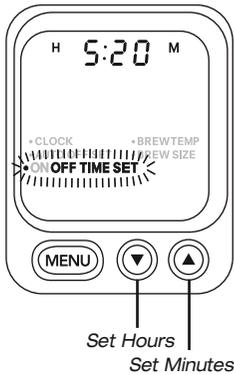

figure 22
- After setting the desired ON TIME, press the Menu button once to save your selected ON TIME. You will now be in the OFF TIME SET MODE (see figure 22).